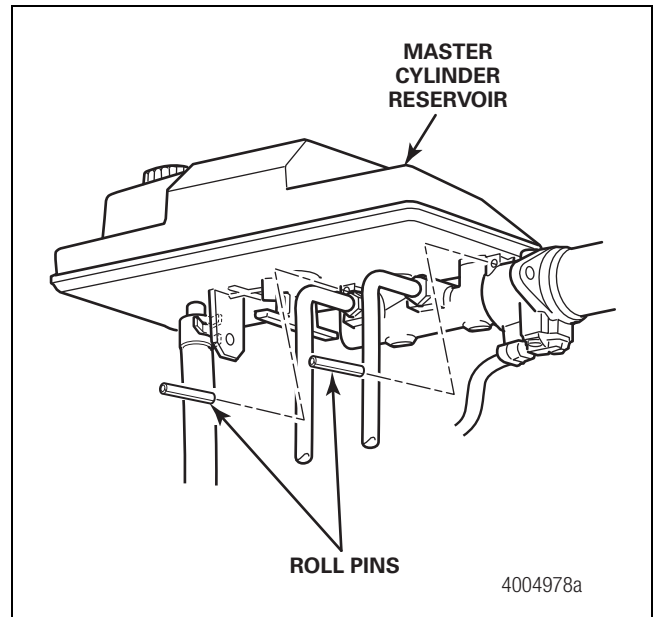

Figure 4.41
- C. Install two new roll pins from the replacement kit. Drive the pins through the holes in the master cylinder boss and the reservoir mounting tab holes. Support the back of the tabs as you install each pin. Figure 4.41.